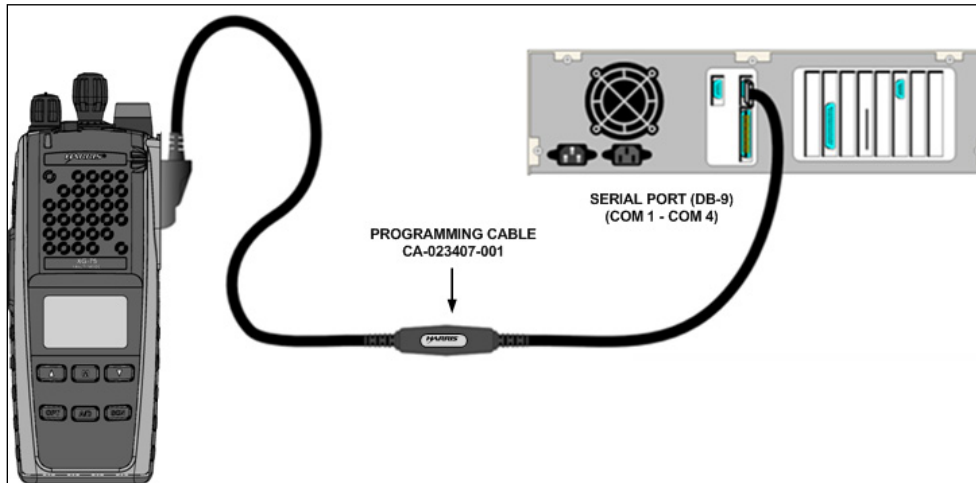

Figure 7-1: XG-75 Programming Setup
RPM software, in one setup, communicates with the radio through the CA-023407-001 programming cable. Figure 7-1 shows a diagram of that Programming Setup to program the radio. Refer to RPM On-Line Help “Programming the Radio” section for detailed programming instructions.
Use the connection diagram shown in Figure 7-1.
3. Connect radio to the Service PC as shown in Figure 7-1. The setup is similar to the Personality Programming setup.
1. Connect radio to the Service PC as shown in Figure 7-1.